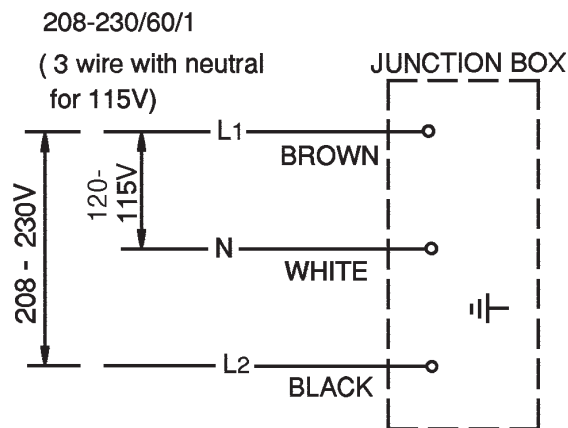

Fig. 4
- The white lead must be connected to the neutral conductor of the power source. Miswiring results in severe damage to the icemaker. See Fig. 4.